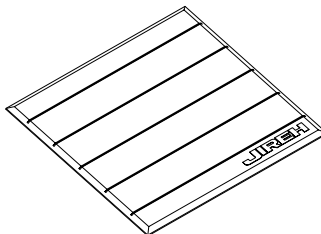
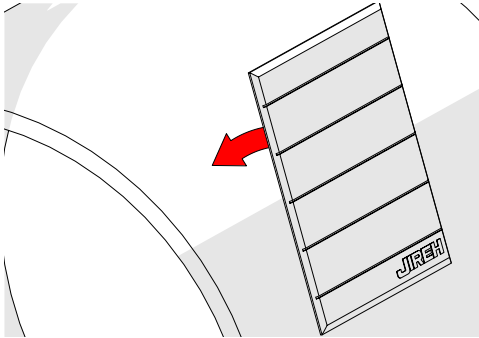

Fig. 28 - Installation/removal mat
Fig. 45 - Place installation/removal mat
IMPORTANT! To place the crawler on the inspection surface, use the scanner installation/removal mat (Fig. 28) as a spacer between the wheels and the surface on which the crawler is to drive. This is necessary to protect the electronic components within the crawler from damaging shock, should the crawler be slammed directly onto the surface.
3. Place the installation/removal mat (Fig. 28) on the inspection surface (Fig. 45).